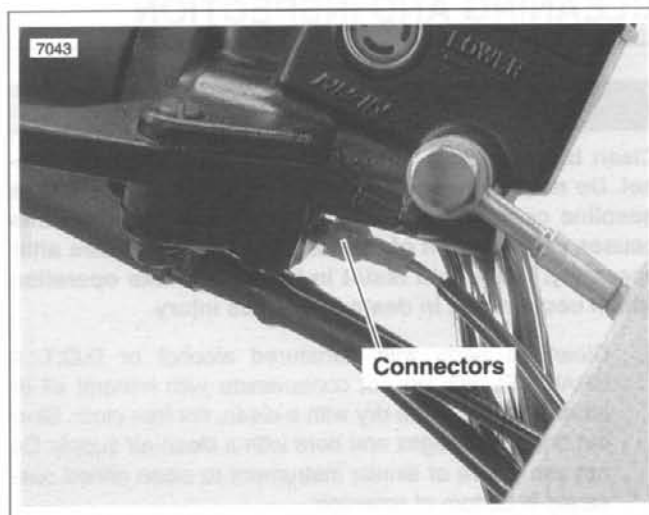

Figure 2-65. Brake Lamp Switch Connectors
2. Connect brake line (5) to master cylinder using two new banjo washers (4) and banjo bolt (6) (metric). Tighten to 16-20 ft-lbs (21.7-27.1 Nm).
3. See Figure 2-65. Verify brake lamp switch wires are tight.